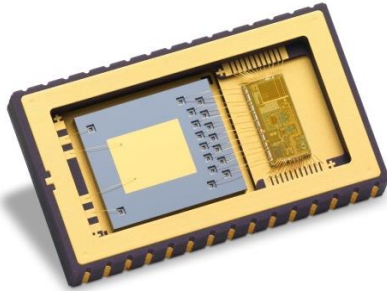

Figure 29 : Inner view of the package, showing the MEMS and IC
The sensing element (MEMS die), which is located on the left part of the Figure 29, is manufactured using Tronic's wafer-level packaging technology based on micro-machined thick single crystal silicon. The MEMS consists of two coupled sub-structures subjected to linear anti-phase vibrations. The structures are vacuumed at the wafer-level providing high Q-factor in the drive mode. The drive system is decoupled from the sense system in order to reduce feedback from sense motion to drive electrodes. The drive anti phase vibration is sustained by electrostatic comb drives. The sense anti phase vibration resulting from Coriolis forces is counter balanced by electrostatic forces. Differential detection and actuation are used for both drive and sense systems and for each sub-structure, keeping two identical structures for efficient common mode rejection.
The integrated circuit (IC), which is located on the right part of the Figure 29, is designed to interface the MEMS sensing element. It includes ultra-low noise capacitive to voltage converters (C2V) followed by high resolution voltage digitization (ADC) for both drive and sense paths. Excitation voltage required for capacitance sensing circuits is generated on the common electrode node. 1-bit force feedbacks (DAC) are used for both drive and sense system actuation.